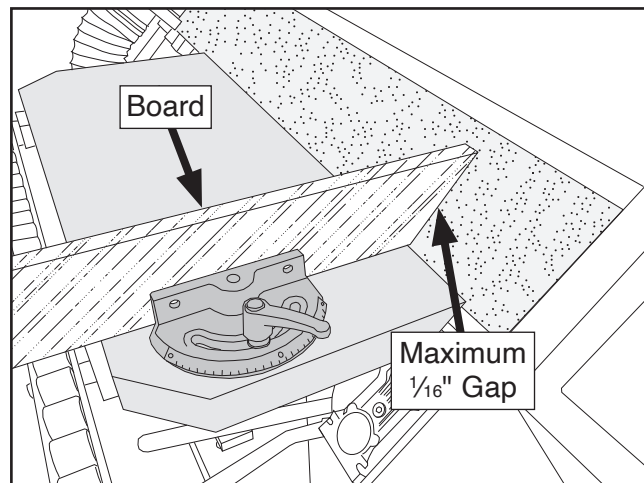

Figure 46. Board in miter fence position.
7. Place board in miter fence position against table so angled edge is within $\frac{1}{16}$ " of sanding belt (see **Figure 46**).